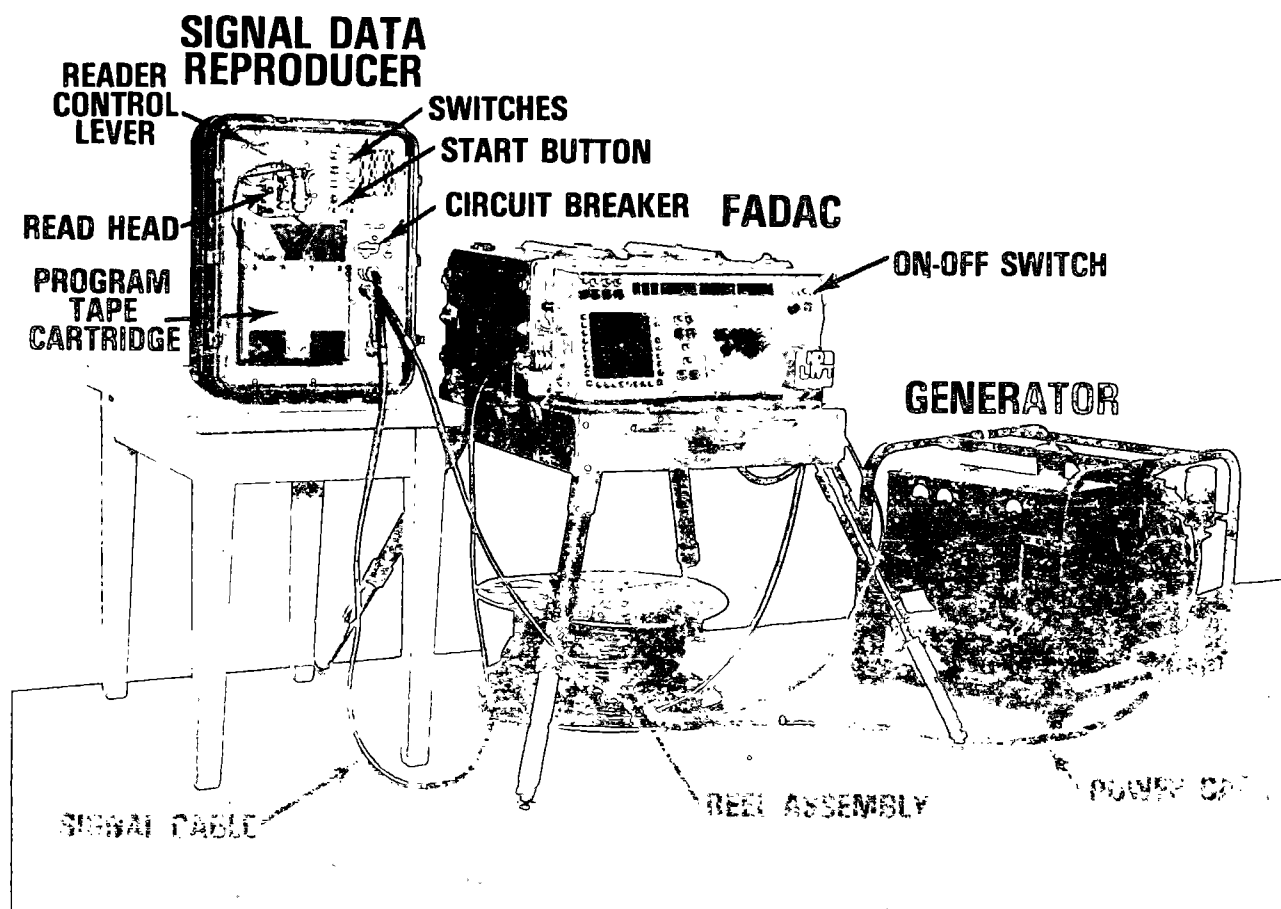
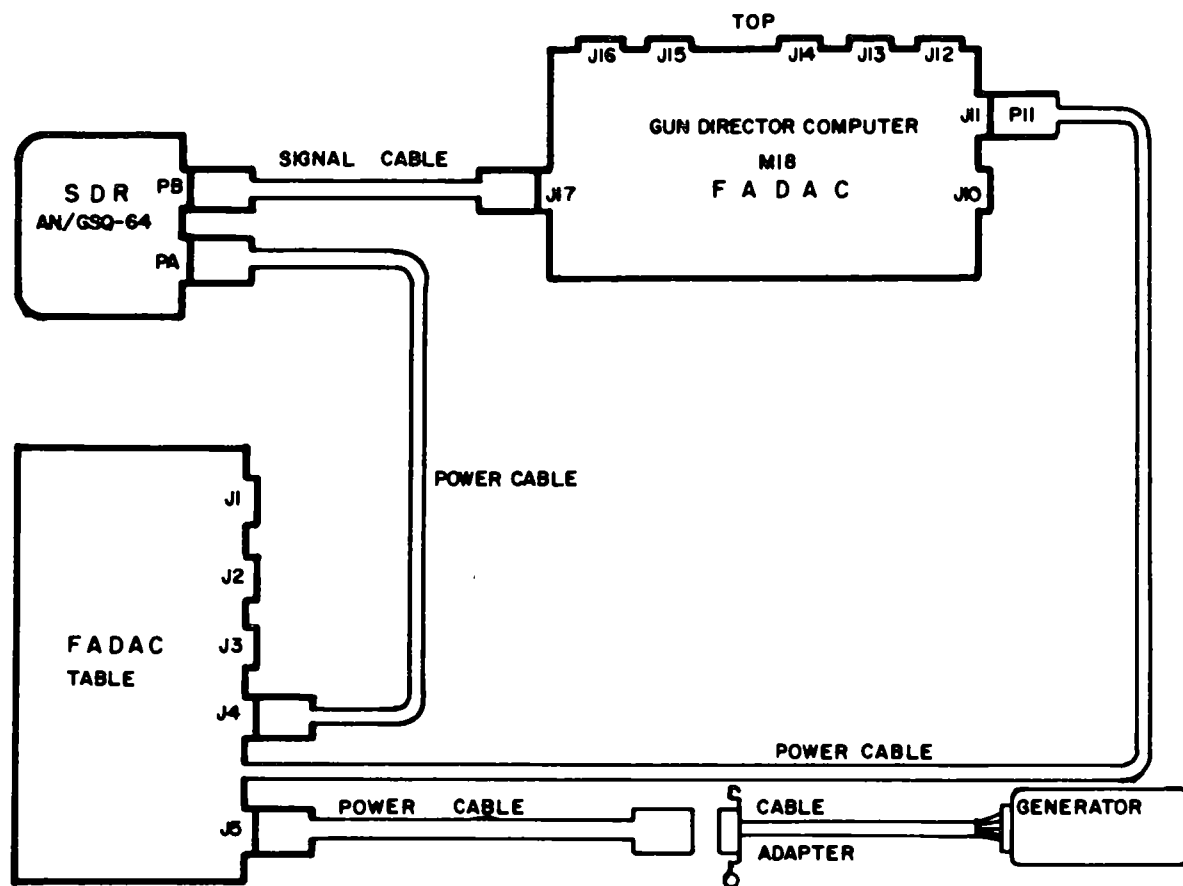

Figure G-4. The signal data reproducer connected to the FADAC for loading the program.
Figure G-5. Connection diagram.
a. Figure G-4 shows the signal data reproducer AN/GSQ-64 connected to the M18 gun direction computer for memory loading. Figure G-5 shows a connection diagram indicating how the specific cable connections are made. (For further details, see TM 9-1220-221-20/1.)
b. After the signal data reproducer (SDR) has been connected to the M18 gun direction computer (FADAC) refer to figure G-4 and use the procedures listed in table G-19 to load the program into memory. (For further details, see TM 9-1290-326-12.)
2	Set all SWITCHES in the down position (fig G-4) and open the READ HEAD gate.